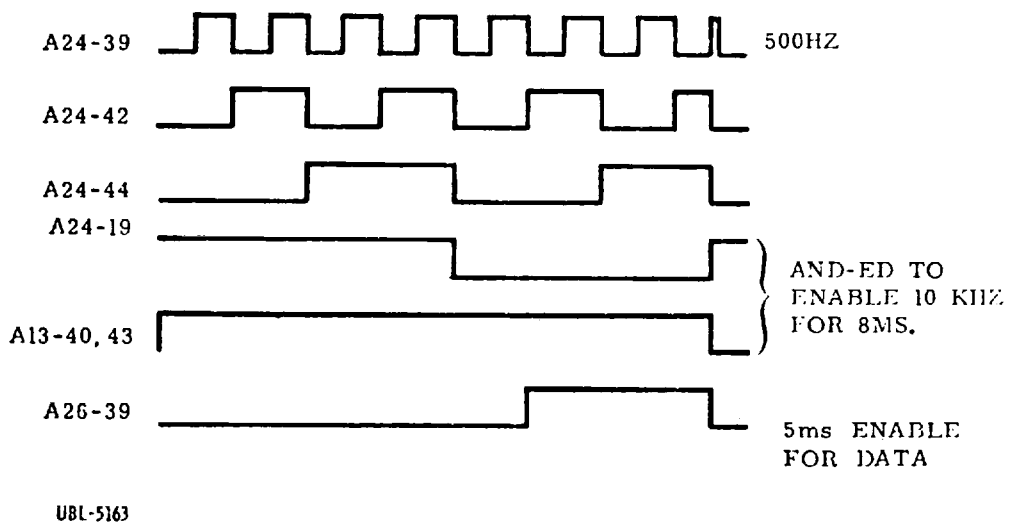

Figure 4-4 . Command Format
a. When a "transmit command" signal is received, a 10-kHz modulation signal is output for a duration of 8 milliseconds. A continuous 4-kHz output from A10 (D4022) is divided down by flip flops on A24 (D4003) to derive the required 8-millisecond enable for the 10-kHz modulation (figure 4-4).
coincident with the time required to output 20 bits at a 4-kHz rate (figure 4-4).